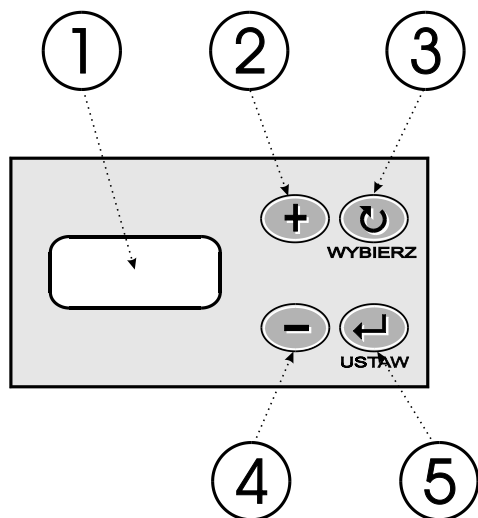

Fig.2 Control panel
On the control panel (Fig.2) are the controls of the regulator. The regulator state is shown on the text display (1). The displayed screens inform about device operation, sensor temperature, enable changing the parameters etc.